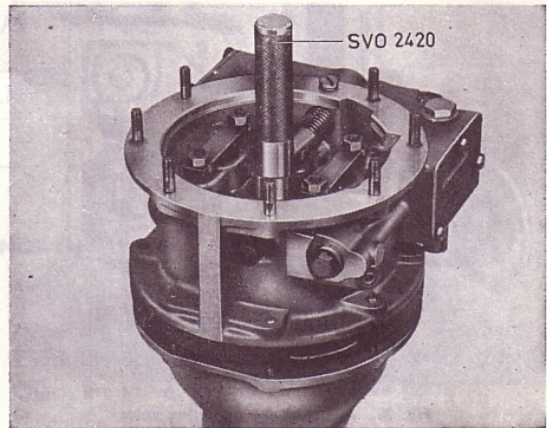

**Fig. 26. Fitting planet gear, II**
5. Press the needle bearings (39) in the planet gears (38) with drift SVO 2417. The bearings should come slightly below the side surfaces of the gears. Assemble the planet carrier, shafts, washers and planet gears, see Fig. 25. Line up the splines in the planet carrier and uni-directional clutch with centring mandrel SVO 2420, see Fig. 26.
6. Fit the sunwheel (46) in the clutch sliding member (43). Assemble the bolts, thrust bearing and thrust bearing retainer. Fit the thrust bearing on the clutch sliding member.